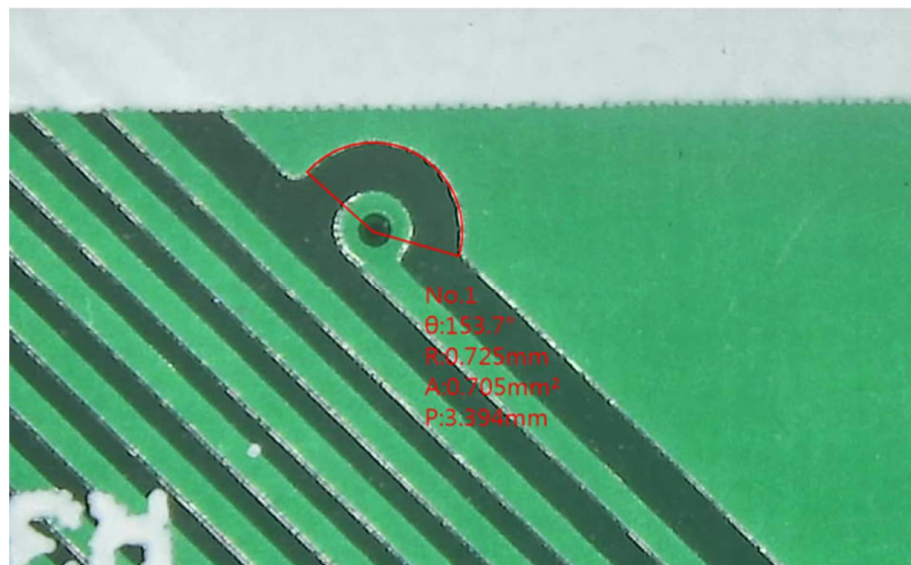

Fig.5-8 Arc area
- (4) Arc: Apply  to measure Arc, see FIG. 5-8. 1st click at the edge of measuring object and then 2nd click on the other side, continue moving mouse till arc area match the measuring object, finalize 3rd click. Below measuring data show Int. angle is 153.7° , radius is $R=0.725\text{mm}$, area is $A=0.705\text{mm}^2$, perimeter is $P=3.394\text{mm}$.